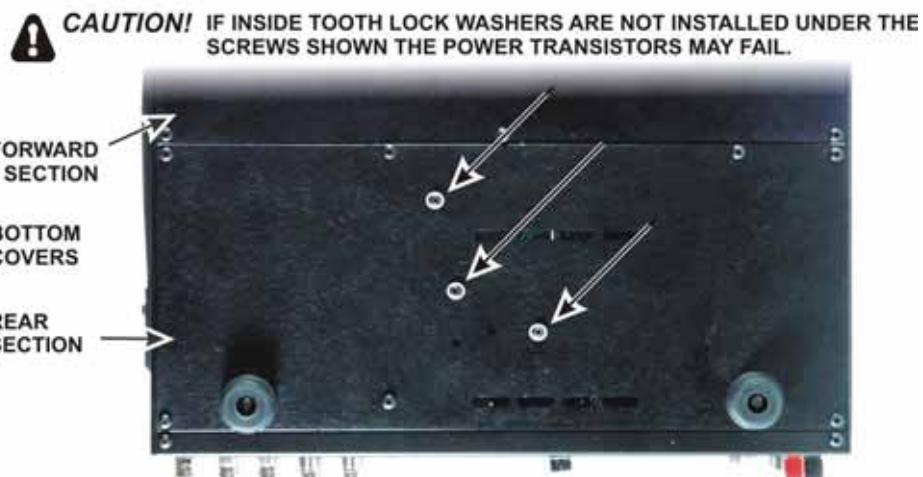

Figure 90. Checking Power Transistor Mounting Hardware.
- Inspect the bottom cover screws to ensure you have inside tooth lock washers under the three screws shown in Figure 90.